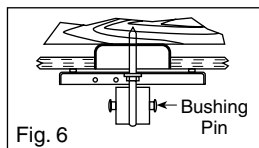

Fig. 6
- C.** BE SURE PIN IS CENTERED IN RUBBER BUSHING. See Figures 6 and 7.